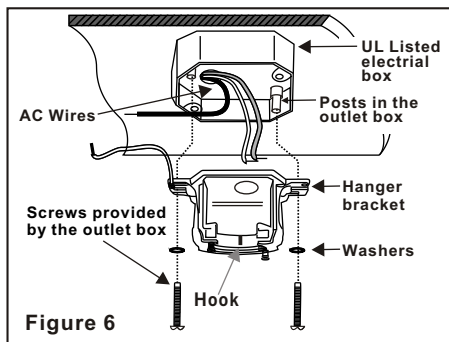

Figure 6
Step 7. Install the hanger bracket to the outlet box; be sure to align the holes in the hanger bracket with the post holes in the outlet box and secure with screws and washers provided by the outlet box. (Fig. 6)